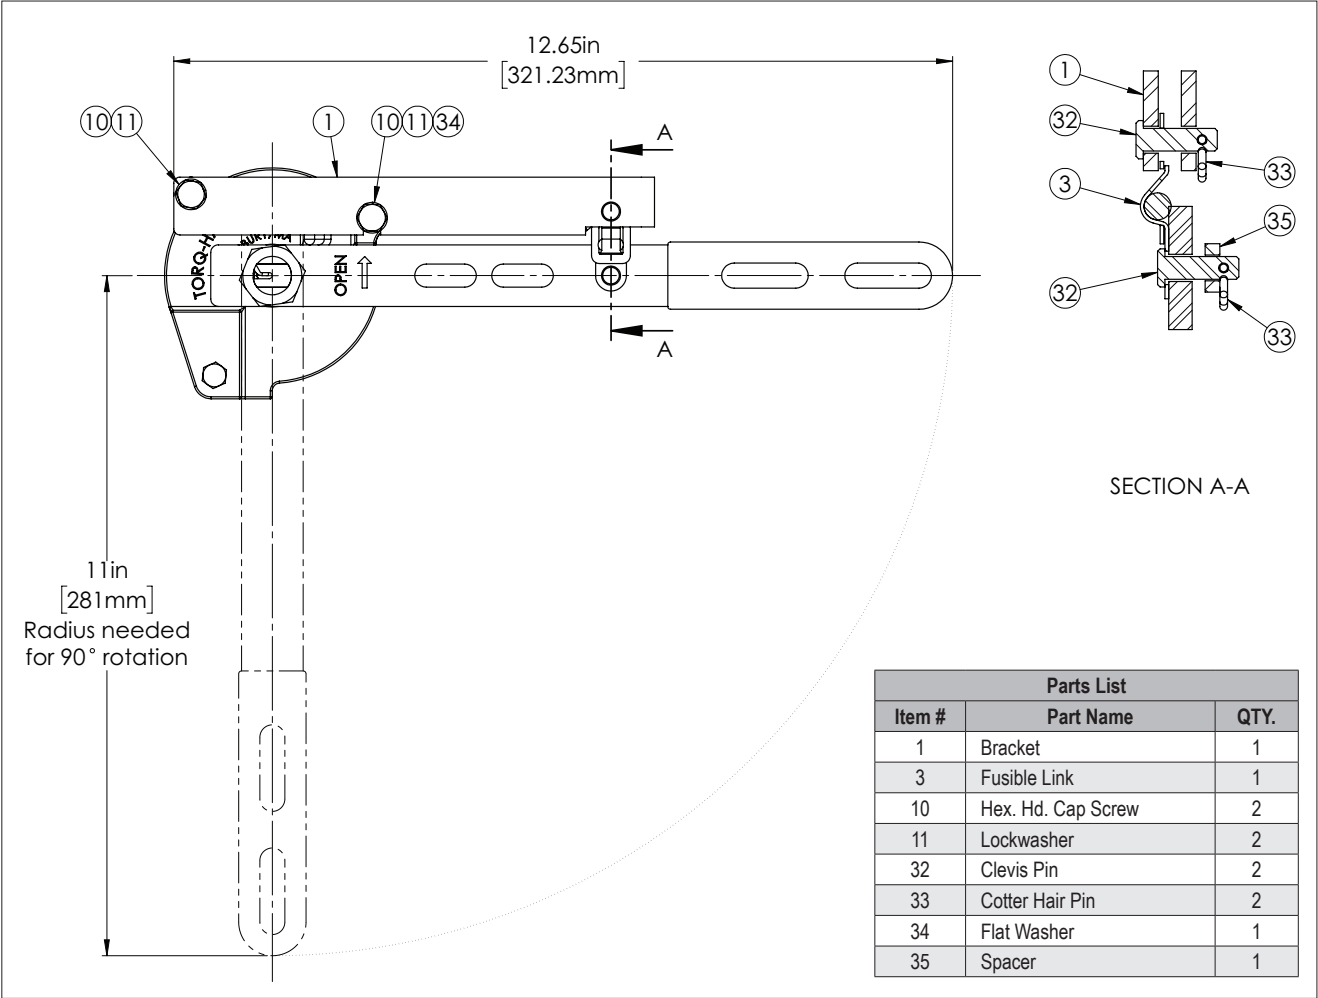

Fig. 2
2.2 Addition of Fusible Link (Figure 2) Using Option Kit LK-8591
- Remove the two hex head cap screws holding the cover to the TORQ-HANDLE base shown in (Figure 2).
- Attach the bracket (1) using the hex head cap screws (10) and lockwashers (11) supplied in the kit. Also use the flat washer (34) on the slotted hole of the bracket.
- Place the fusible link (3) onto the clevis pin (32) as shown in Figure 2.
- Assemble these parts through the handle. Once through the handle add spacer (35) and secure with cotter hair pin (33).
- Stroke the handle and secure it by placing the clevis pin (30) into and through the bracket hole. Secure the clevis pin with the cotter hair pin (33).